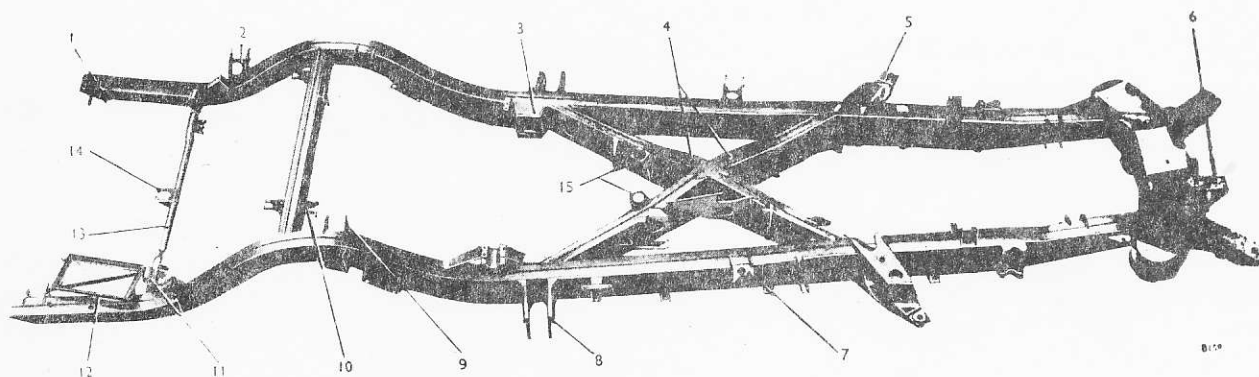

Fig. P1 (S) S3 chassis frame
All S3 chassis frames are provided with angled tunnels through the left-hand side member and the rear left-hand cruciform member to accommodate the 'through-the-frame' exhaust pipe run (see Figure P1 (S) of this